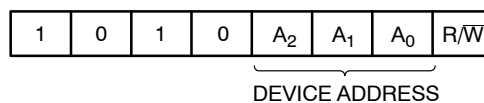

Figure 3. Slave Address Bits
The Master addresses a Slave by creating a START condition and then broadcasting an 8-bit Slave address. For the CAV24C64, the first four bits of the Slave address are set to 1010 (Ah); the next three bits, A₂, A₁ and A₀, must match the logic state of the similarly named input pins. The R/ $\overline{W}$ bit tells the Slave whether the Master intends to read (1) or write (0) data (Figure 3).